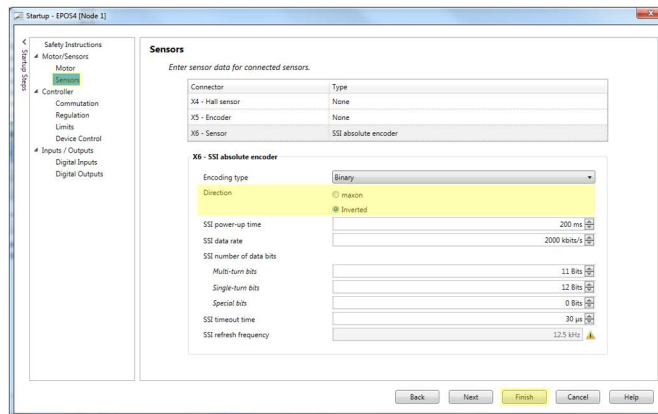

Figure 8-164 Adjustment of SSI commutation offset value | Toggle sense of rotation
d) If the indication decreases, open the «Startup» wizard \ «Motor/Sensors» and select «Sensors». Toggle the sense of rotation by changing the active checkbox «Direction» (→ Figure 8-164). Click «Finish» to close the wizard and verify the correct setting as described above.